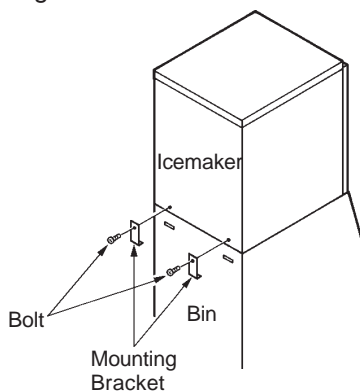

Fig. 3
- 4) Secure the icemaker to the Storage Bin, by using the two mounting brackets and two bolts provided. See Fig. 3.